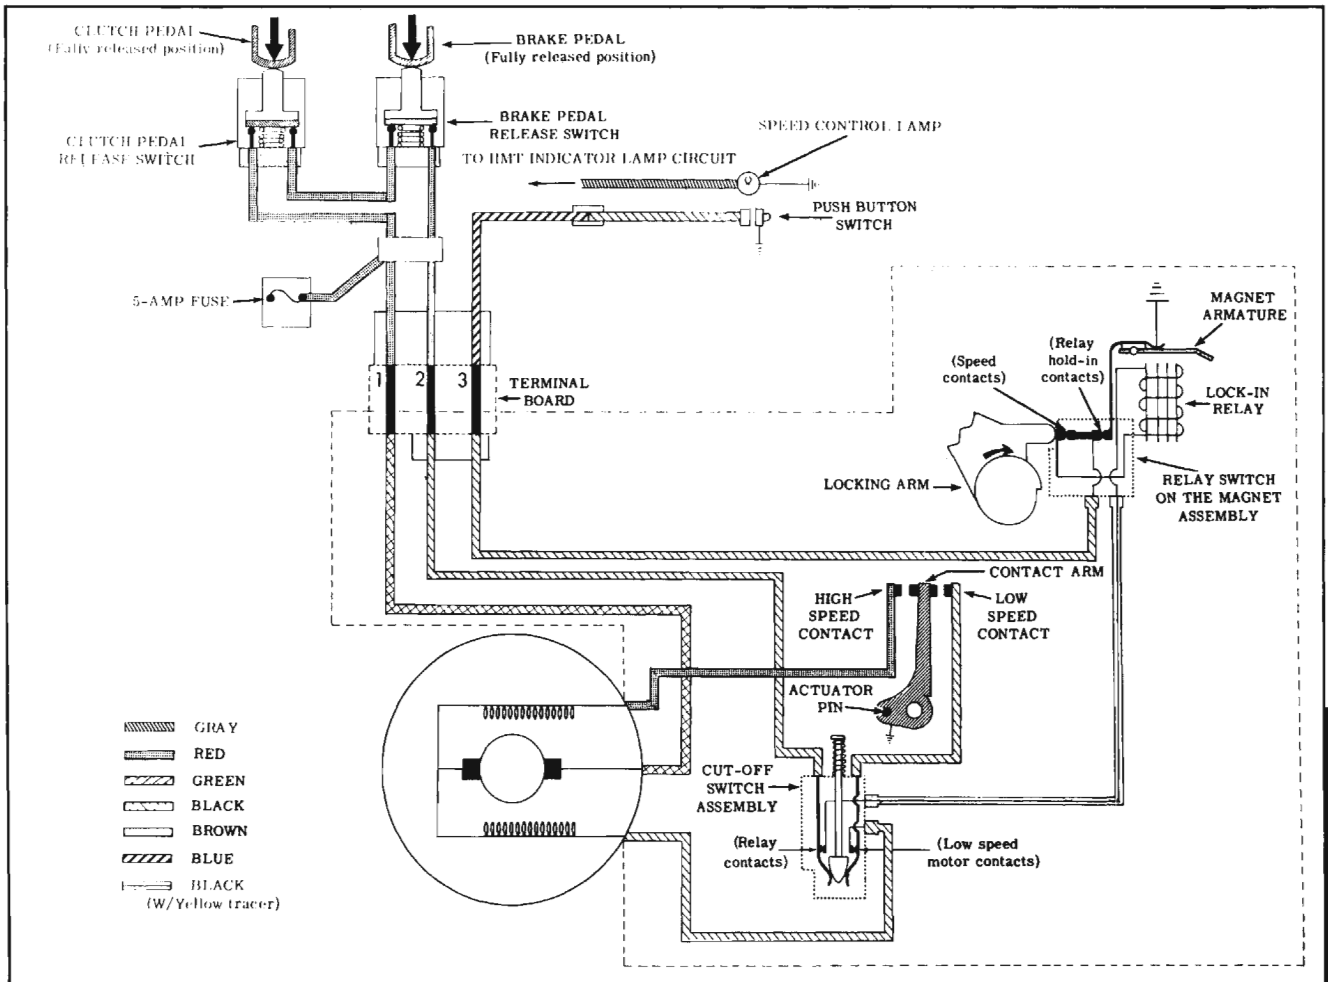

Fig. 13-25 Cruise Control Electrical Layout
**ELECTRICAL TESTS (Fig. 13-25)**